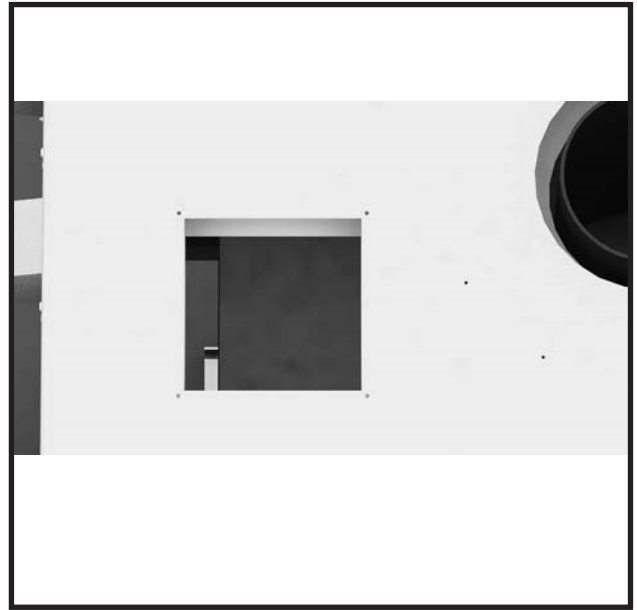

Figure 21: Panel with insulation removed.
2. Cut and remove the insulation directly below the opening, down to the next opening (Figure 21).